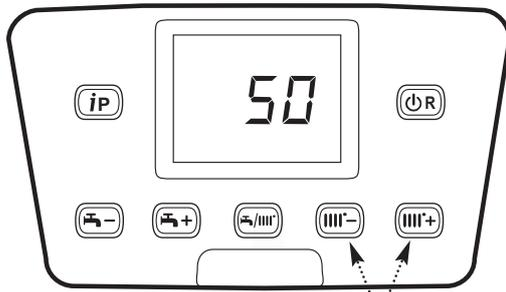

Fig. 25
6. Normally the display will show the current temperature of the water in the boiler (e.g. 41°C). As the buttons are pressed (Fig. 25) the curve identification code the will be shown, from '00' to '90'.